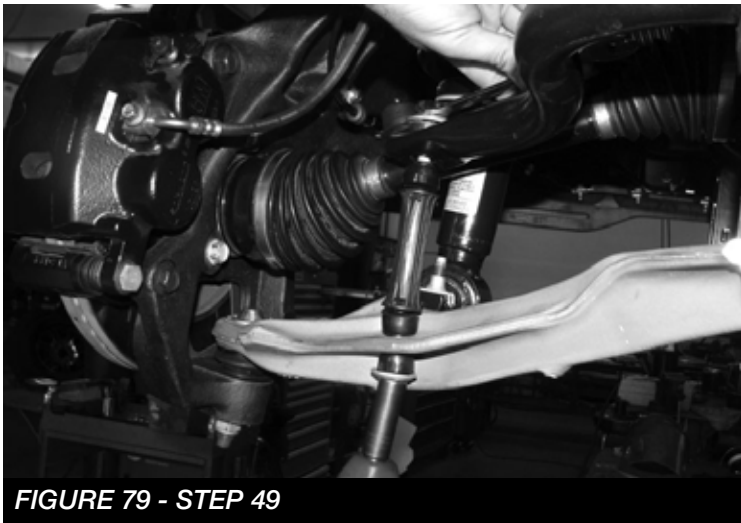

FIGURE 79 - STEP 49
49. Install the factory sway bar using the provided 3/8"-16 x 1-1/2" bolts, washers and nuts. Torque to 52 ft-lbs. Install the factory sway bar links with the factory hardware and torque to 58 ft-lbs. **SEE FIGURES 79**